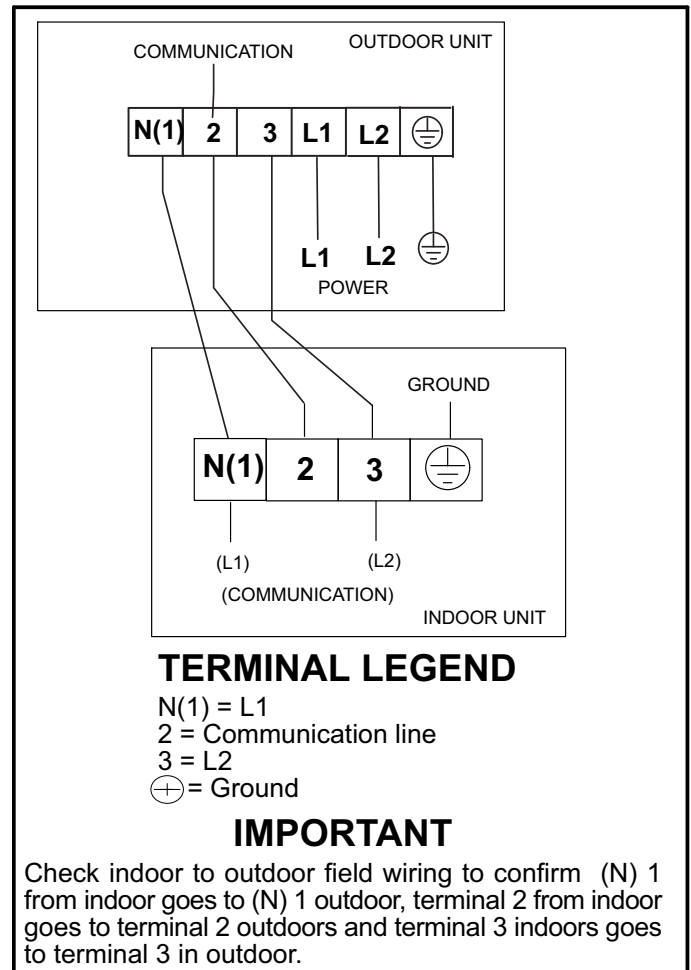

FIGURE 30
7. Terminal designations for the indoor unit terminal block are illustrated in figure 30.